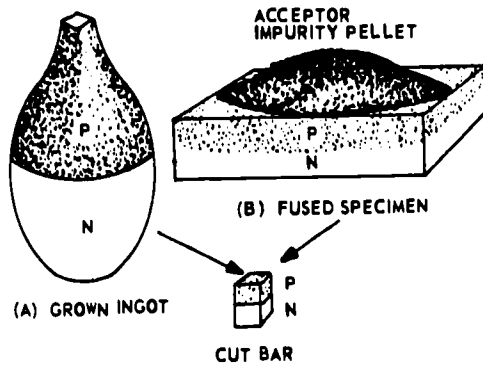
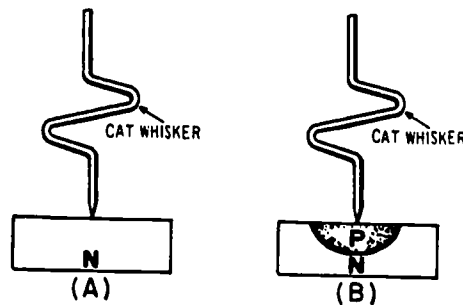

Fig 1-13. Grown and fused PN junctions from which bars are cut.
Fig 1-14. The point-contact type of diode construction.
Merely pressing together a section of P material and a section of N material, however, is not sufficient to produce a rectifying junction. To form a proper PN junction, the semiconductor should be in one piece, but divided into a P-type impurity region and an N-type impurity region. This can be done in various ways. One way is to mix P-type and N-type impurities into a single crystal during the manufacturing process. By so doing, a P-region is grown over part of a semiconductor's length and an N-region is grown over the other part. This is called a GROWN junction and is illustrated in view (A) of figure 1-13. Another way to produce a PN junction is to melt one typical type of impurity into a semiconductor of the opposite type impurity. For example, a pellet of acceptor impurity is placed on a wafer of N-type germanium and heated. Under controlled temperature conditions, the acceptor impurity fuses into the wafer to form a P-region within it, as shown in view (B) of figure 1-13. This type of junction is known as an ALLOY or FUSED-ALLOY junction, and it is one of the most commonly used junctions. In figure 1-14, a POINT-CONTACT type of construction is shown. It consists of a fine metal wire, called a cat whisker, that makes contact with a small area on the surface of an N-type semiconductor as shown in view (A) of the figure. The PN union is formed in this process by momentarily applying a high-surge current to the wire and the N-type semiconductor. The heat generated by this current converts the material nearest the point of contact to a P-type material (view B).